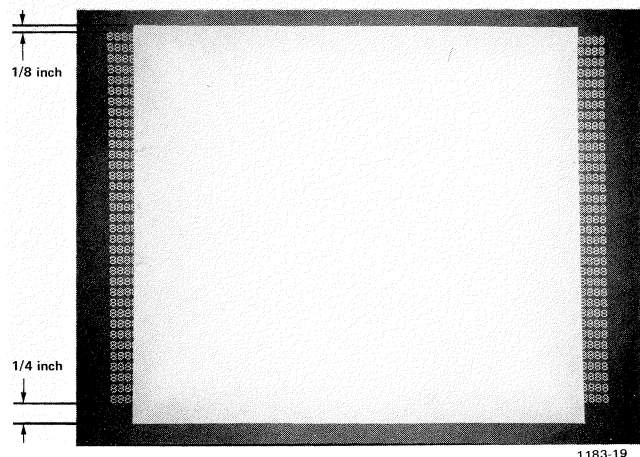

Fig. 4-14. HC Y AMP Adjustment Display.
f. Check Hard Copy Y amplitude. The stored scan bar should extend approximately 1/4 inch below and 1/8 inch above the stored 8s, as in Fig. 4-14.